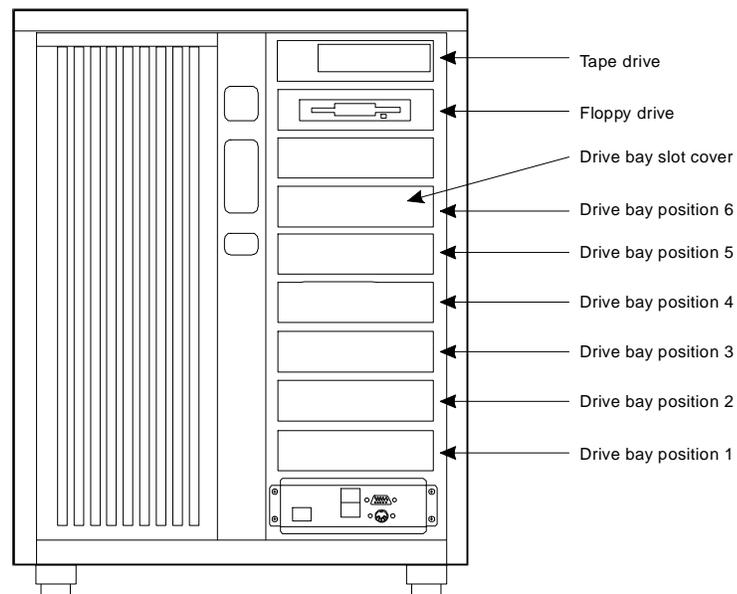

Figure 10-3. Peripheral Bay Numbering Scheme as Seen from the Front of the MAP/100
8. See Figure 10-3 to determine in which bay to place the next disk drive.